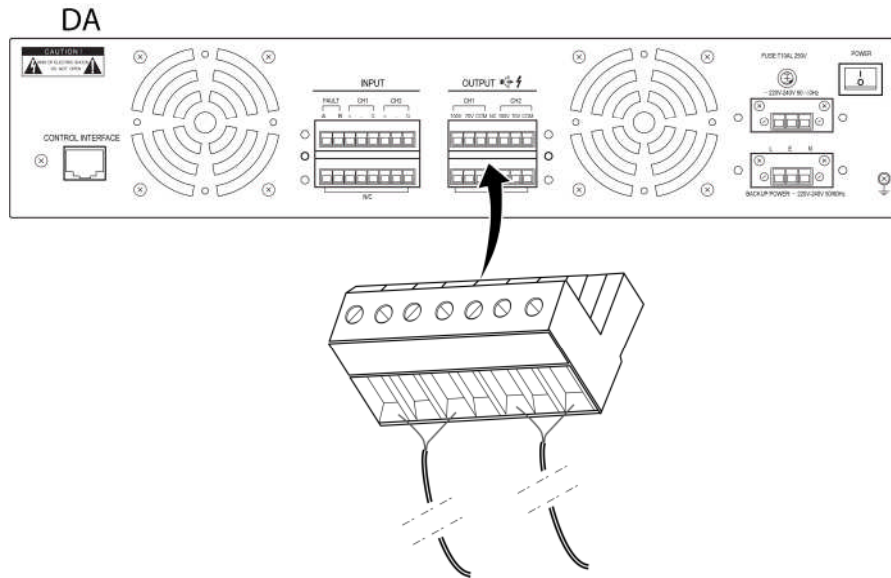

Figure 14 Schematic Diagram of the Audio Output Wiring Terminal Installation
- e. Insert the power amplifier audio output wiring terminal of the installed audio output cable into the DA audio output port, as shown in Figure 14.
2. Insert the dry contact input wiring terminal of the installed input cable into the DCS dry contact port. Refer to Figure 14.
2. Insert the AVC wiring terminal of the installed cable into the DCS AVC port. Refer to Figure 14.
2. Insert the loudspeaker wiring terminal of the installed audio cable into the DCS loudspeaker port. Refer to Figure 14.